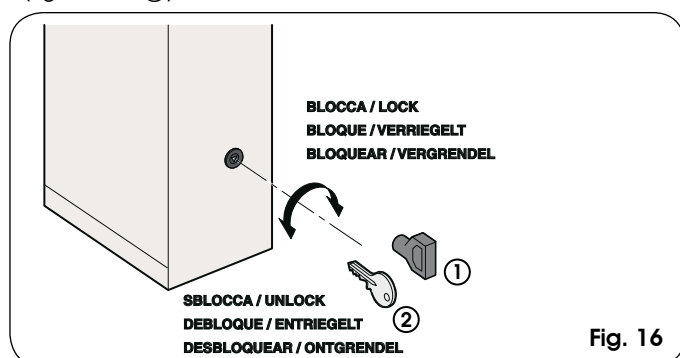

Fig. 16
The supplied release key can be triangular (Fig. 16 ref. ①) or customised (Fig. 16 ref. ②, optional).
- Insert the release key in the lock and turn it **anti-clockwise** through one complete turn as shown in Fig 16
- turn the key **clockwise** until it stops and remove it (Fig. 16 ref. ①).
- turn the key **clockwise** until the point where it can be removed (fig. 16 ref. ②).